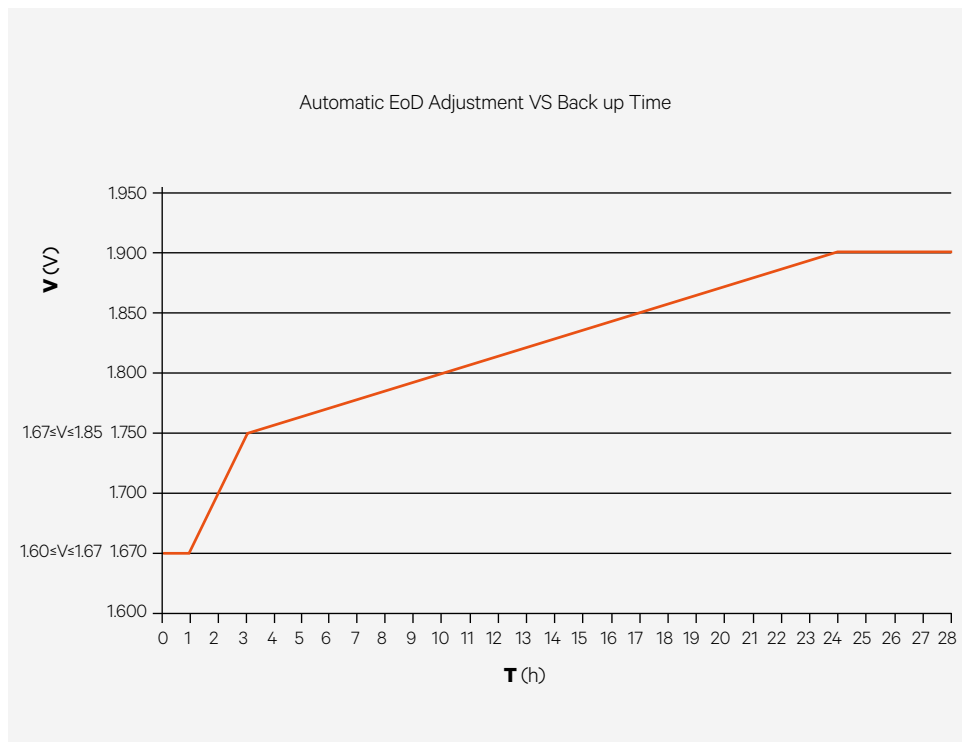

Figure 4: End of discharge voltage in relation to discharge time
- Nominal voltage (V) 2.0
- End of discharge (EoD) voltage automatically regulated according to back up time - see Figure 4